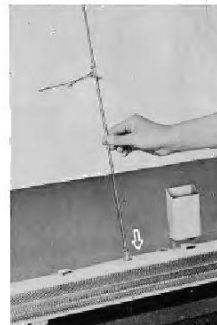

Fig. 12
f. Set up the automatic yarn tension unit by fitting rod's end into the stand hole at center of knitter, with the 3 pronged rear yarn guide away from you. (See Fig.12)